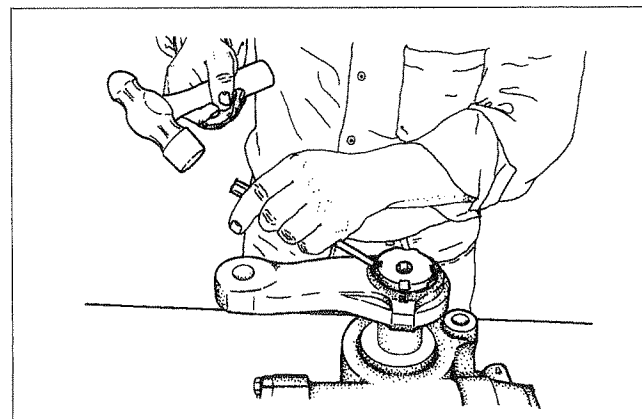

Figure 14
7. Bend the tabs into the retainer (Figure 14).